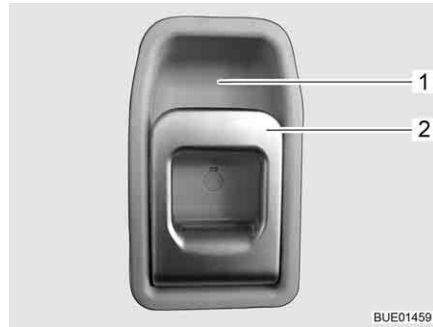

Fig. 37 Door lock of conversion door, inside
- Opening:* ■ Pull on the handle (Fig. 37,2). The door lock is unlatched.
- Locking:* ■ Press the upper part of the handle (Fig. 37,2) in the direction of the recessed handle (Fig. 37,1).